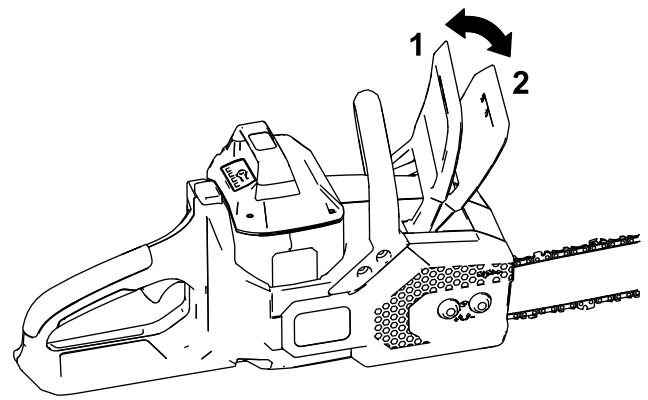

Figure 9
6. Ensure that the chain brake is in the OPERATING position (Figure 9).
Whenever you are not using the saw or are transporting the saw to or from the work area, move the chain brake to the STOP position (Figure 9) and remove the battery pack.